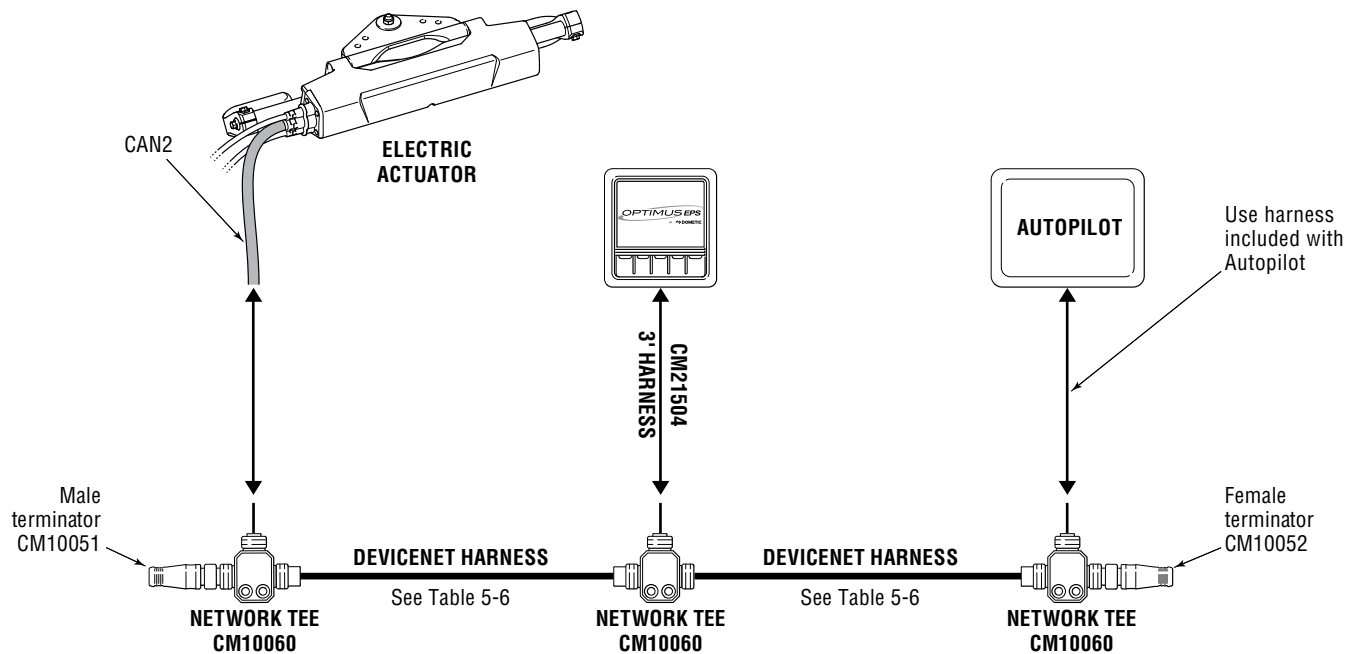

Figure 5-22.
You will need to build a small CANbus network with a node (tee connector) for each actuator, each display, and for the autopilot. Locate the nodes close to the devices and use an extension harness to create a network backbone. Your network will look similar to figure 5-22 (only one actuator is shown, but you will need to connect both in a multi-engine system). The CAN2 bus is powered by the SCU, so a separate power supply connection is not required.
3. Ensure that you have two – and only two – terminating resistors, one at each end of the network backbone, as shown in figure 5-22.